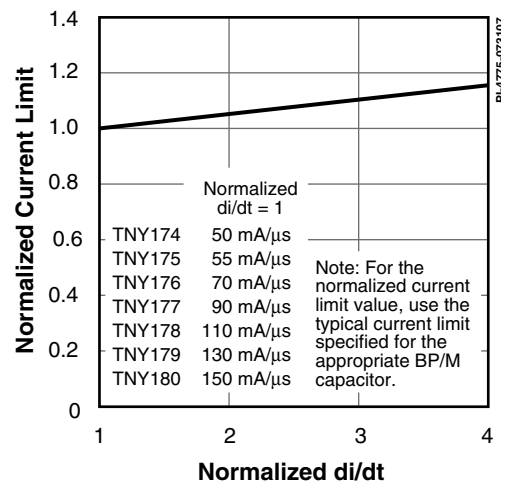

Figure 21. Current Limit vs.  $di/dt$ .
- E. For current limit at other di/dt values, refer to Figure 21.